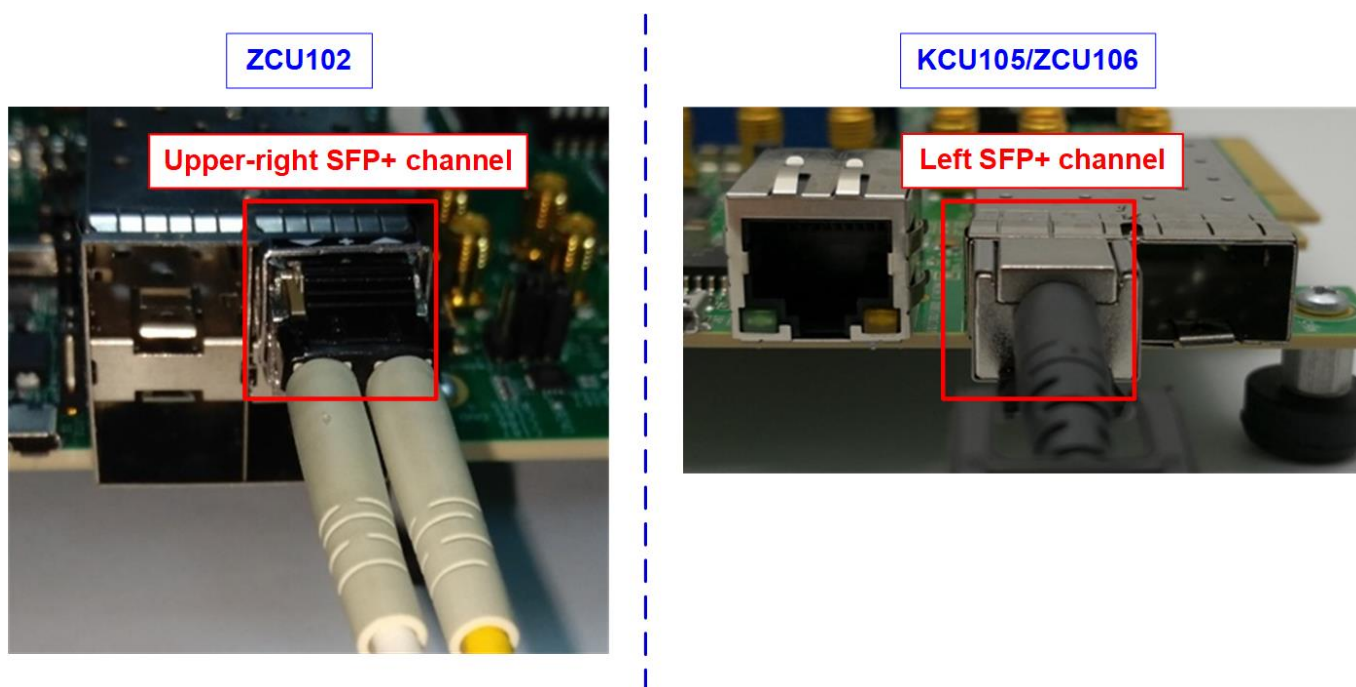

Figure 2-3 SFP+ channel using on ZCU106/KCU105 board
- a) For ZCU102, KCU105, and ZCU106: Use a 10G SFP+ AOC cable. Utilize the specific SFP+ channel as indicated in Figure 2-3.